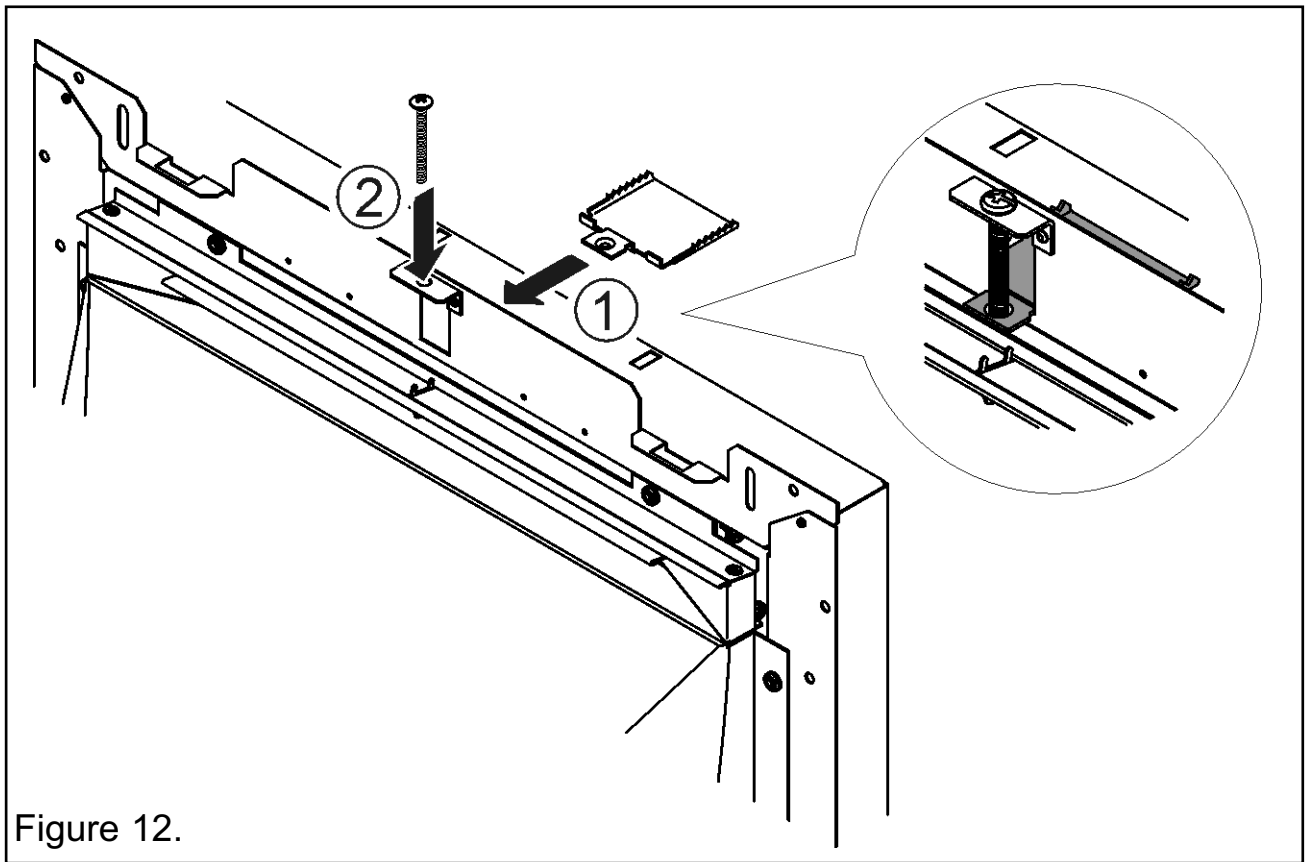

Figure 12.
1. Locate the clamp as in point 1 of figure 12. Place the screw through the upper bracket on the heater and locate into the clamp - point 2 of figure 12. It is only necessary to locate the screw, do not continue to turn it as this will elevate the clamp.